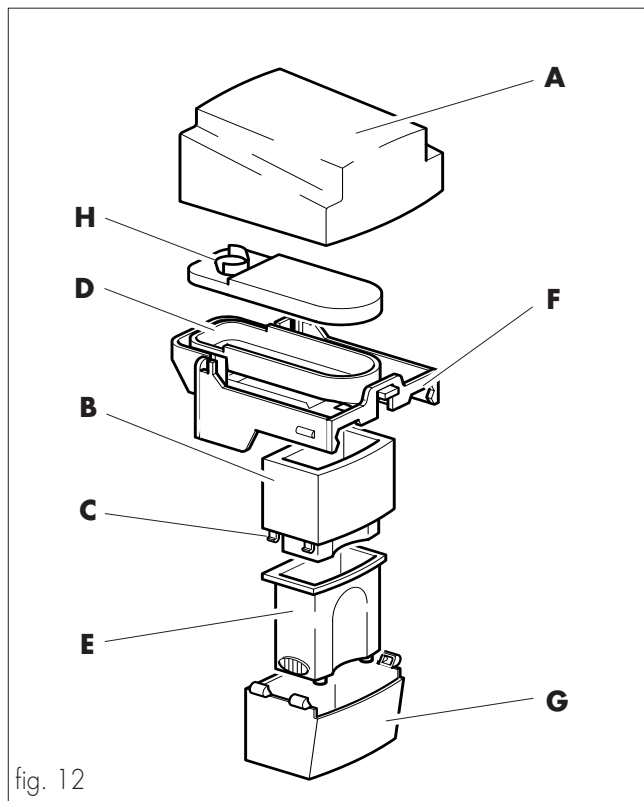

fig. 12
- The top cover (ref. **A**, fig. 12), of the fixed dispenser (ref. **F**, fig. 12), by pulling it upwards;
- The rubber gasket (ref. **H**, fig. 12);
- The mobile dispenser (ref. **G**, fig. 12) by pulling it downwards;
- The telescopic dispenser (ref. **E**, fig. 12), sliding it from the main dispenser (ref. **G**, fig. 12), after having pressed on the hooks (ref. **C**, fig. 12) of the internal element (ref. **B**, fig. 12).
The metal conveyor (ref. **D**, fig. 12) has to be cleaned with a damp cloth without disconnecting it from the fixed dispenser (ref. **F**, fig. 12).
The conveyor (ref. **D**, fig. 12) is heated by an internal heating element; before cleaning, wait until it has completely cooled.